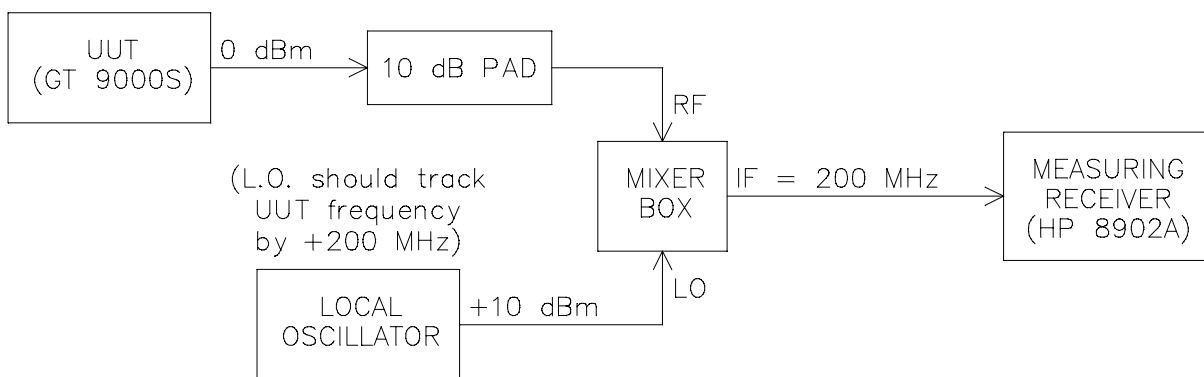

Figure A-4. Option 27 Calibration/Test Setup
3. Connect the GT 9000S RF output to a mixer box, as shown in Figure A-4. On the HP 8902A, select 50 Hz and 15 kHz filters, AM mode. Set the GT 9000S RF output frequency to 5 GHz. Using a BNC T connector and oscilloscope, apply a 1.0 V_{pp}, 1 kHz sine wave to the AM input BNC on the GT 9000S front panel.
9. Connect the Model GT 9000S and test equipment as shown in Figure A-4. On the HP 8902, select 50 Hz and 15 kHz filters, AM mode. Set the GT 9000S RF output to 5 GHz.